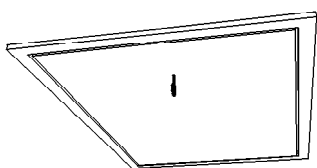

fig. 17
15. Fix a suitable architrave around the lid leaving a 2-3mm gap or fit "J" channel for flush finish (figure 17).